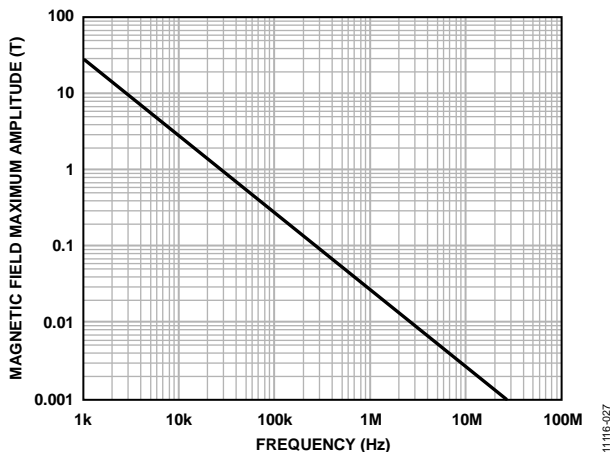

Figure 97. Maximum Allowable External Magnetic Field
Given the geometry of the receiving coil in the ADE7933/ADE7932 and an imposed requirement that the induced voltage (V_{THR}) be, at most, 50% of the 0.5 V margin at the decoder, a maximum allowable magnetic field (B) is calculated, as shown in Figure 97 and Equation 54.